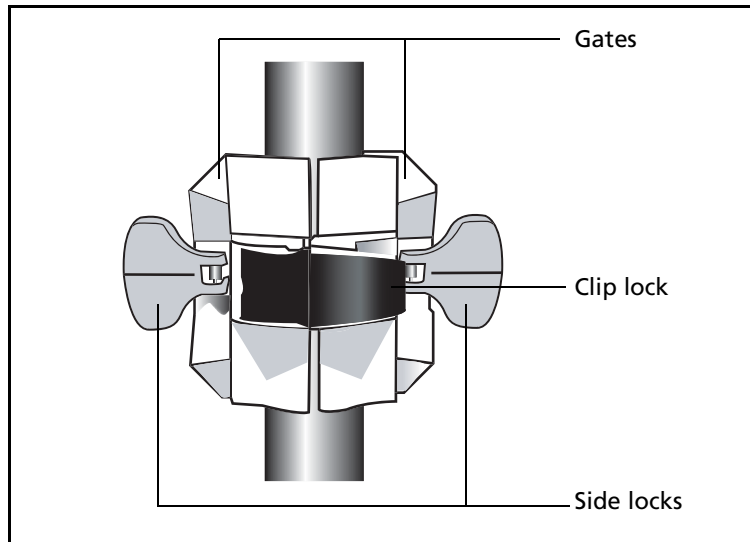

Figure 3.9 5700 receiver bracket
- c. Holding the receiver in the bracket, pull the side locks back to their original positions, as shown in Figure 3.9.